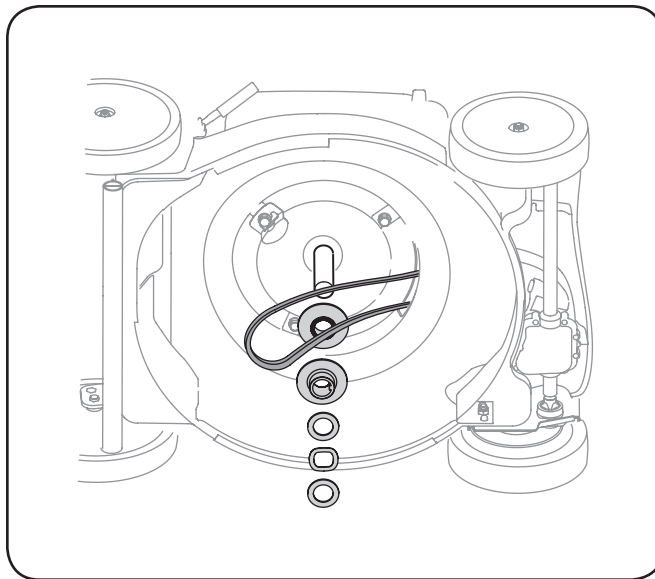

Figure 7-4
5. Slide belt off of engine pulley and thread through the opening in the deck. See Figure 7-4.